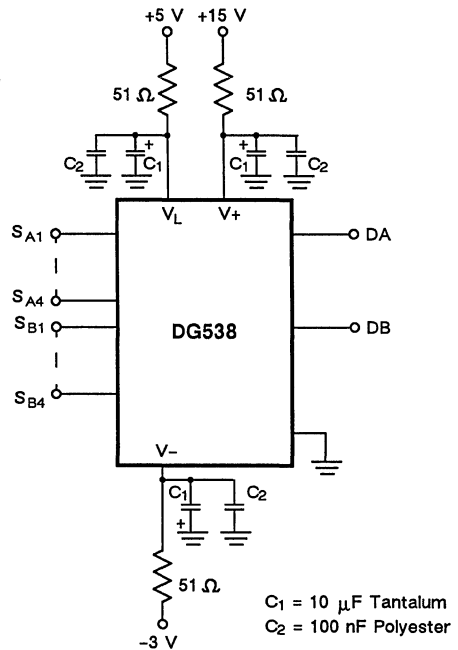

Figure 14. DG538 Power Supply Decoupling
- d. Additional high frequency protection may be provided by 51  $\Omega$  carbon film resistors connected in series with the power supply pins (see Figure 14).